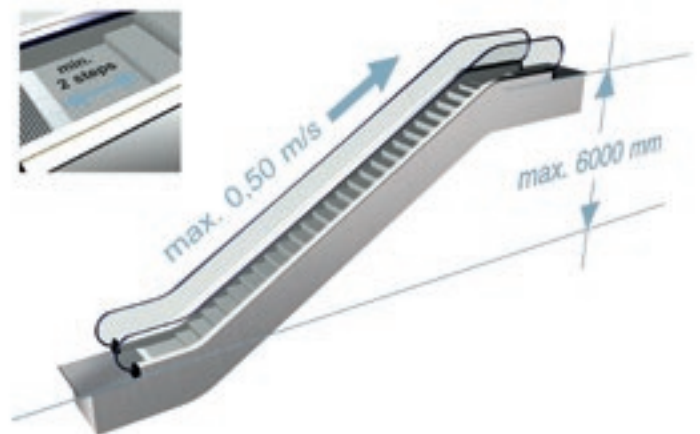

Figure 5.11 Vertical rise and speed of an escalator with two horizontal steps.
**EN 115-1** The minimum number of horizontal steps at each landing under EN 115-1 is two. Note that the vertical rise must not exceed 6000 mm. EN 115-1 also specifies that the step speed must not exceed 0.5 m/s (see Figure 5.11).